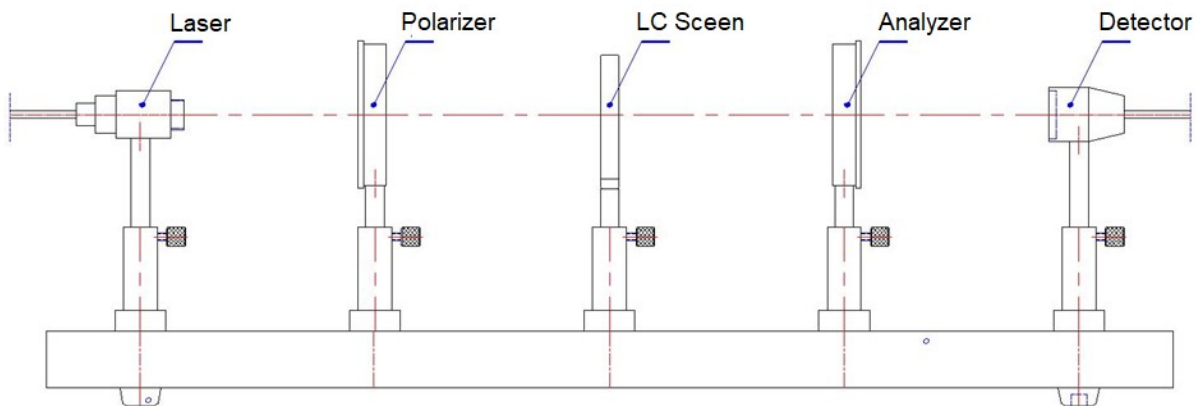

Figure 6 Schematic of experiment setup of liquid crystal electro-optic effect
- a) Place the laser, polarizer, LC screen, analyzer, and photo detector at the corresponding positions on the optical bench as shown in Figure 6.